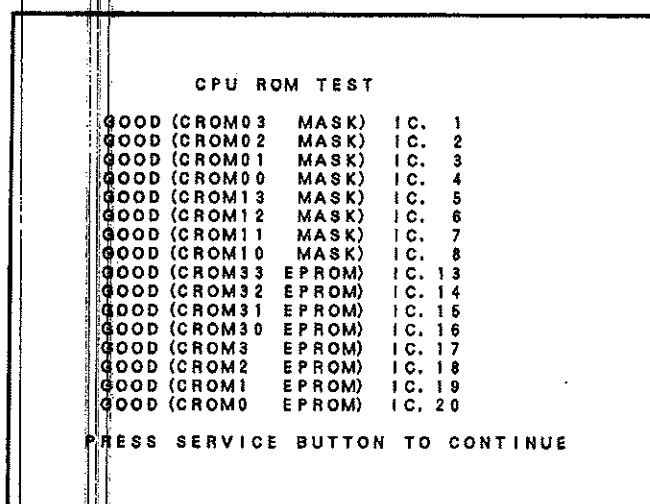

FIG. 9.3a MEMORY TEST (1)
- ① Press the test button to display the test item menu.
- ② Press the Service button to move the arrow. Bring the arrow to the desired item and press the test button to execute testing the item.
- ③ Select EXIT and press the test button to exit from the test mode and return to the game mode.
- During test, "TESTING NOW" will be displayed instead of "PRESS SERVICE BUTTON TO CONTINUE" and "PRESS TEST BUTTON TO EXIT" in FIGs. 9.3a~d.
- When the test is complete, if FIGs 9.3a~d are displayed, it is satisfactory.